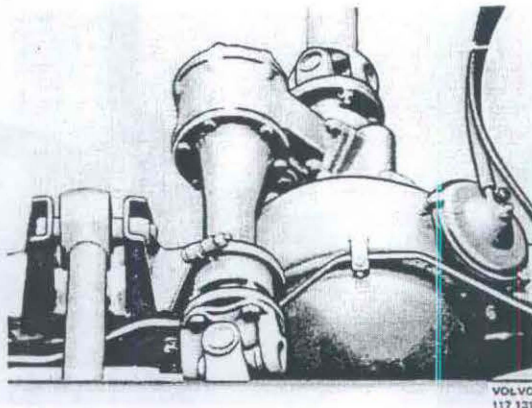

Fig. 46-133. Power take-off on the differential carrier
2. Remove the nuts securing the power-take-off to the rear differential carrier, see Fig. 46-133.